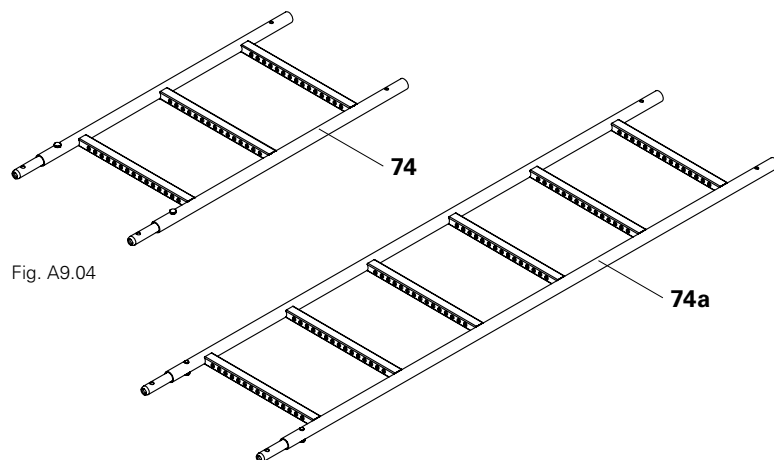

Fig. A9.04
2. Secure pin connection with M10x40 bolt and nut. (Fig. A9.04)